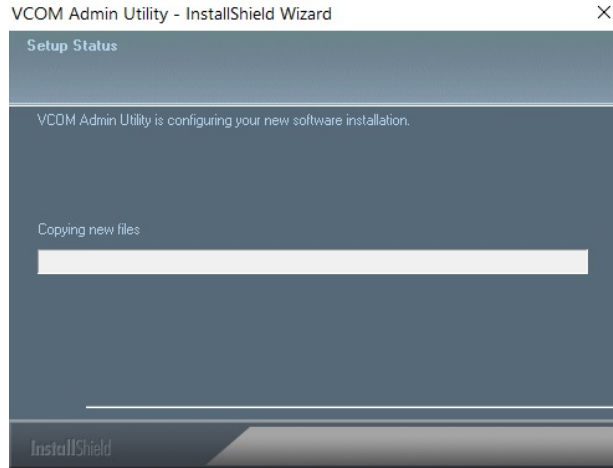

Figure 5-1-3 : Installing Process
3. The setup wizard will show the progress of the installation and status as shown in Figure 5-1-3.